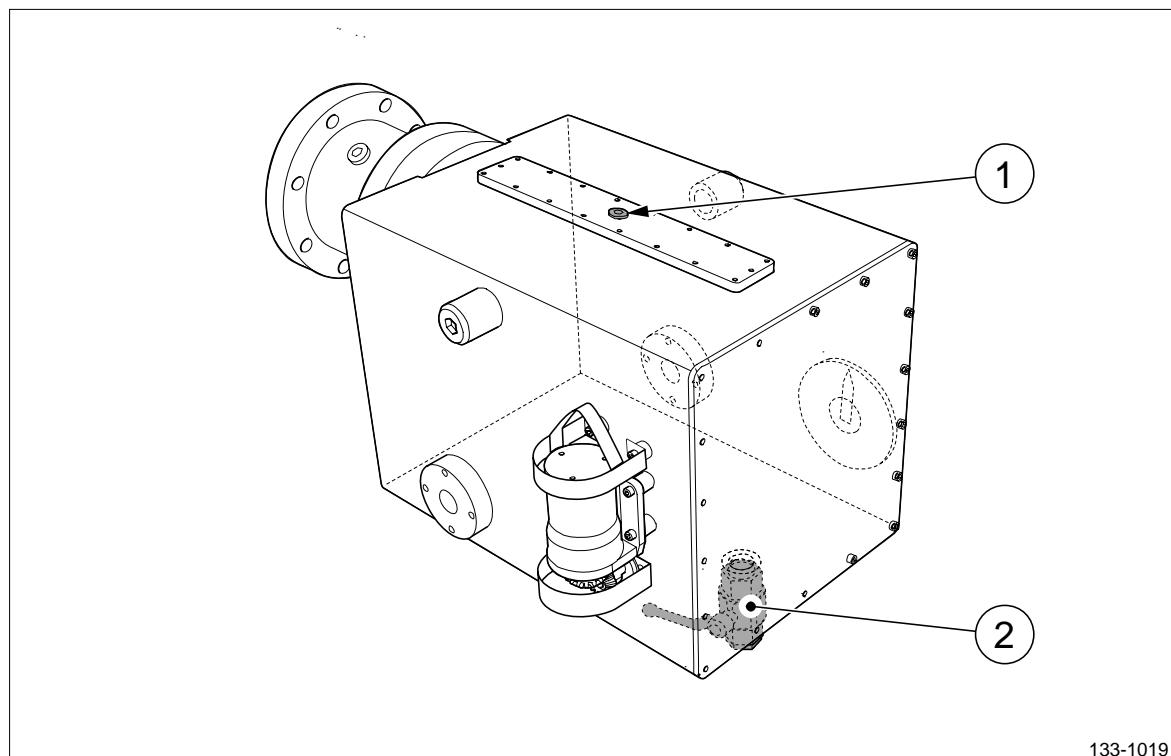

Figure 6 The OD-box drain valve.
5. Place a container under the drain valve T on the OD-box (pos 2, figure 6).
7. Remove the plug (pos 1, figure 6) to allow air to flow into the OD-box.